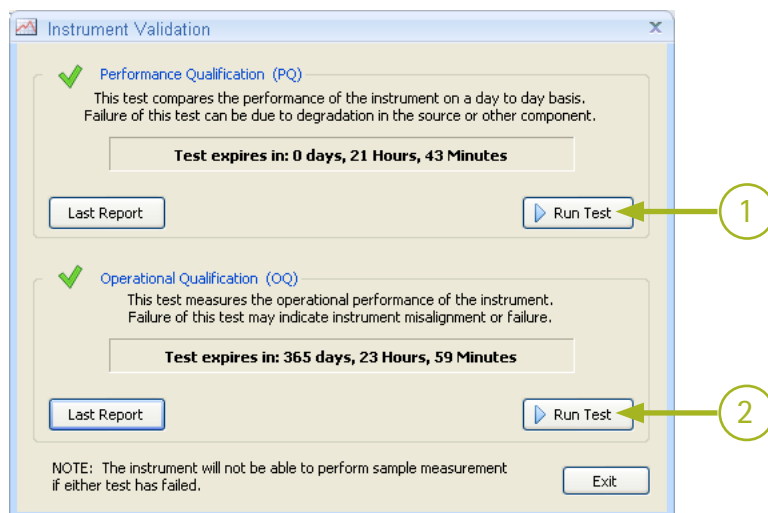
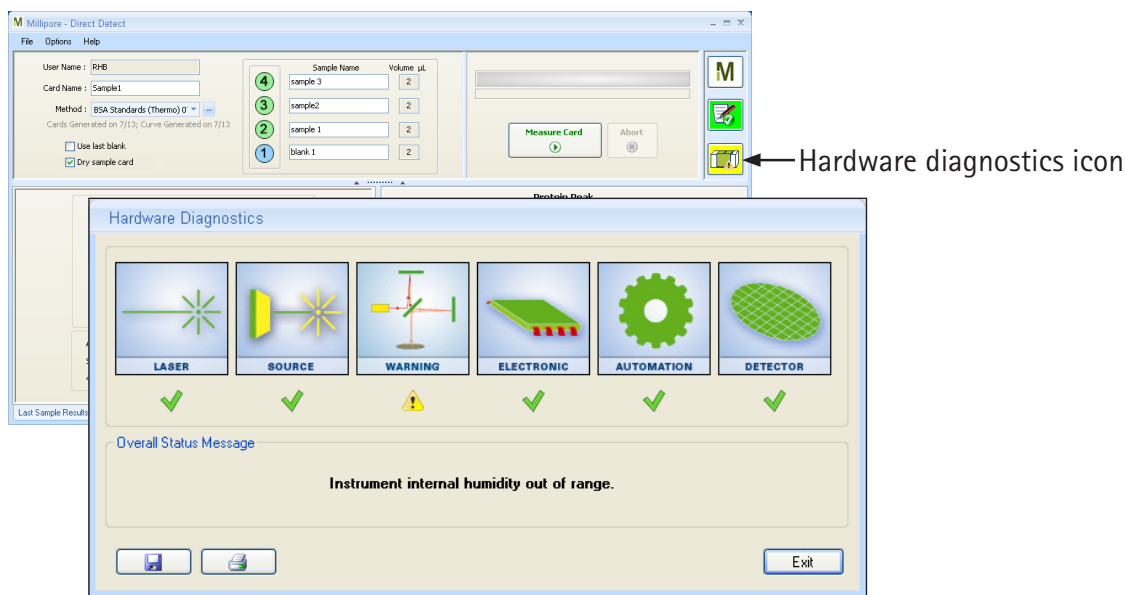

Figure 23. Instrument validation dialog
Figure 24. Hardware Diagnostics interferometer warning
12. When the instrument validation dialog appears, click on the Performance Qualification Run Test button (1) (Figure 23). The test takes about 5 minutes.
If the desiccant is saturated and can no longer absorb humidity, it must be replaced. Both the hardware diagnostics icon (Figure 23) and instrument status light (on top of the instrument, 5E in Figure 5) will turn yellow. When you click on the hardware diagnostics icon (Figure 24), the hardware diagnostics dialog appears and displays the message
"Instrument internal humidity out of range" (Figure 24).